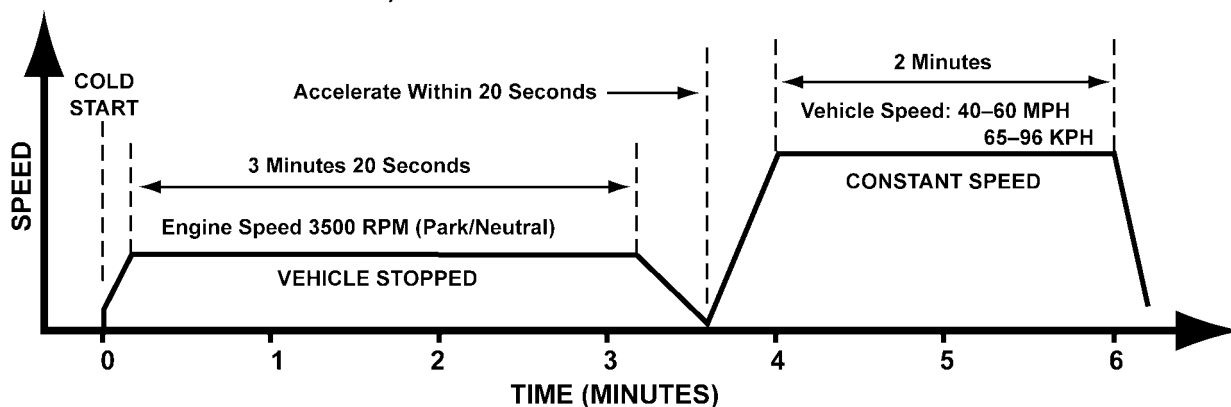

Figure MA000-13
4. Drive vehicle as indicated by the graph (Figure MA000-13).